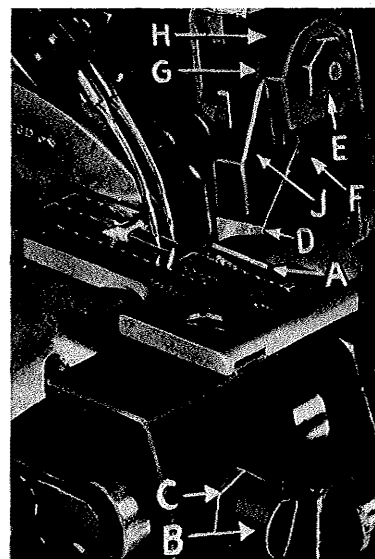

Fig. 13
Replace upper knife assembly. Clamp upper knife (D, Fig. 13) in position, setting nut (E) to hold clamp (F) in its most clockwise position against upper knife. Upper knife chain guard (J) should be positioned so that the guarding section is approximately $1/64$ inch (.40 mm) behind the cutting edge and in contact with the top surface of the upper knife.